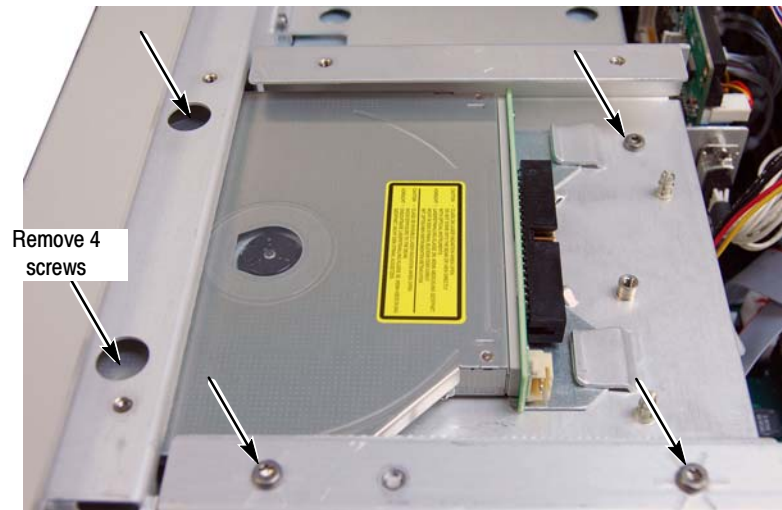

Figure 2: Removing the screws that secure the drive bracket assembly
8. Remove the five screws securing the drive bracket assembly. See Figure 2.